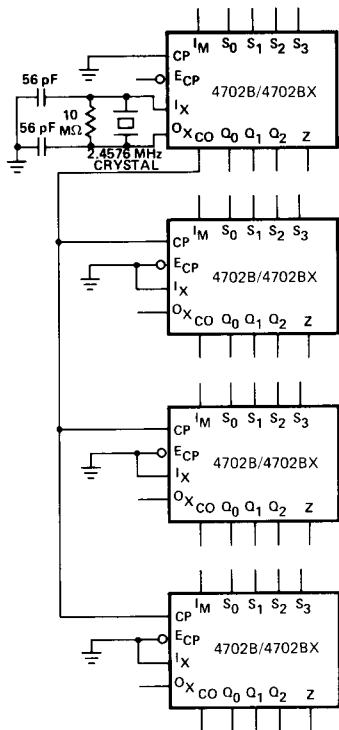
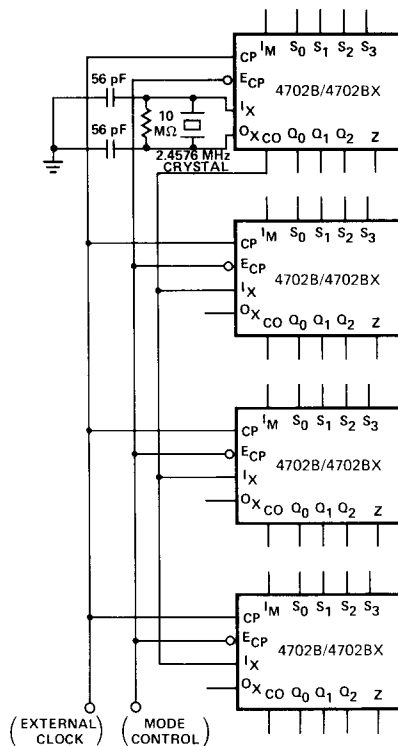

Fig. 5
Fig. 6
**Clock Expansion** — One 4702B/4702BX can control up to eight output channels. For more than eight channels, additional bit rate generators are required. These bit rate generators can all be run from the same crystal or clock input. *Figure 5* shows one possible expansion scheme. One 4702B/4702BX is provided with a crystal. All other devices derive their clock from this master. *Figure 6* shows a different scheme where the master clock output feeds into the IX input of all slaves and all ECP inputs are normally held HIGH. This scheme retains the reset feature and the selection between two different clock sources of the basic 4702B/4702BX circuit.